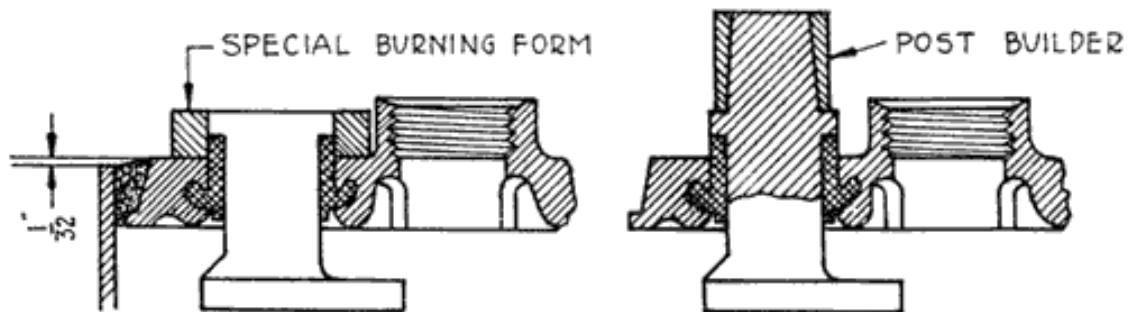

Fig. 286. Building up Posts of Willard Types SJWN and
5. Brush the top of post and cover insert perfectly clean. Now make a burning form consisting of a ring  $1\frac{1}{8}$  inch inside diameter and  $1\frac{5}{8}$  inch outside diameter and  $\frac{3}{16}$  to  $\frac{1}{4}$  inch high. Set this over the stub post and cover. With a hot lead burning flame melt the top of the post and cover insert together. Then melt in lead up to the top of the special burning form (Fig. 286). Then remove the form.
6. Set post builders on the part of the posts which has been built up and build up the posts as usual, Fig. 286. Then burn on the connectors and terminals.